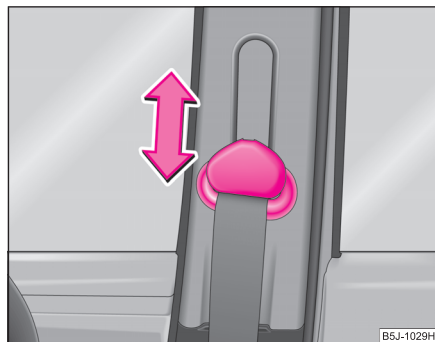

Fig. 111 Front seat: Seat belt height adjuster
- To adjust the belt height press the height adjuster and move it up or down ⇒ fig. 111.